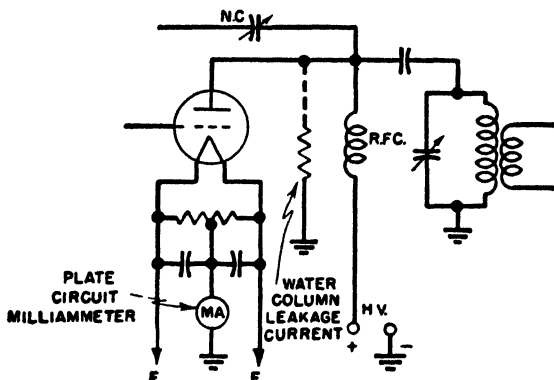

FIG. 4-15.—Correct ammeter connection in water-cooled system.
*Ans.* Figure 4-15 illustrates the proper connection of a plate ammeter in a water-cooled radio-frequency amplifier.